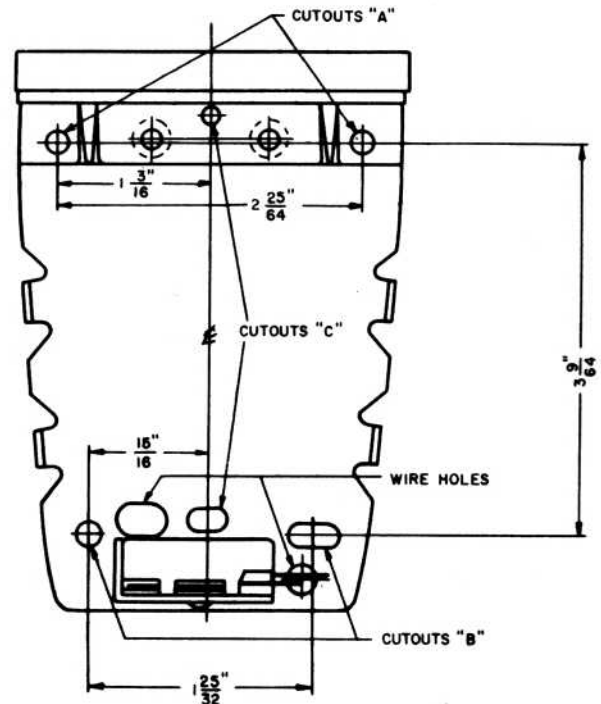
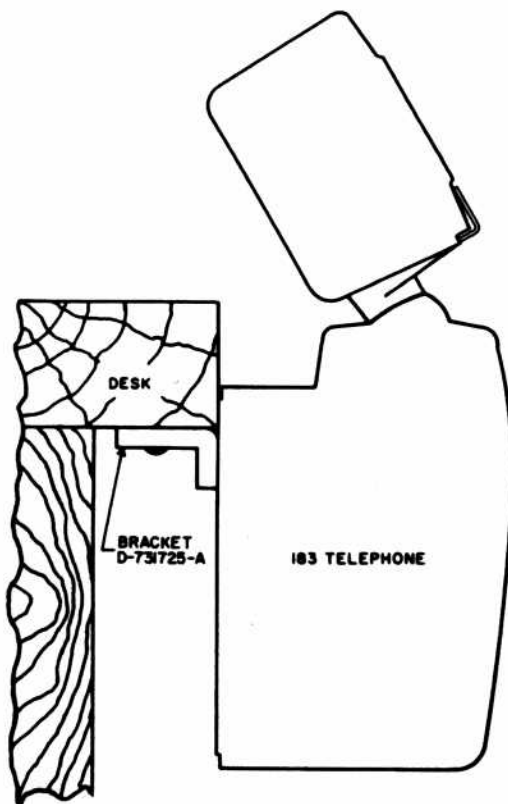

Figure 4. Baseplate Diagram.
Figure 3. Special Desk-Top Mounting.
2.04 The telephone can be attached to the edge of the top of a wood desk or to a special bracket (D-731725-A) installed under the desk-top overhang (Figure 3) by installing No. 8 wood screws through the cutouts in the baseplate (cutouts marked "A" in Figure 4).
2.05 To mount a Type 183 telephone on a metal desk, holes must be drilled to accommodate No. 8 machine screws. The holes should be drilled in the side of the desk in the pattern shown for holes marked "A" and "B" in Figure 4. A hole must also be drilled to align with the oblong-shaped wire hole. If the run of inside wire is to connect first to the telephone and from there extended to a ringer, then another wire hole must be drilled to align with the circular wire hole (Figure 4). The oblong-shaped wire hole in the baseplate should always be the hole used for incoming wire which must pass through the baseplate. The circular wire hole should be used only when extending the wire run. The Type 183 telephone should be attached to the desk with four No. 8 machine screws, lock washers, and nuts.
2.06 The location (including distance above the floor) of the Type 183 telephone on a wall must be determined, as far as practicable, according to the needs of the customer. The four cutout holes marked "A" and "B" in Figure 4 must be used to mount the telephone on a wall or other flat surface. To mount the telephone, install one No. 8 screw through either of the holes marked "A". Install a second No. 8 screw through the oblong hole marked "B". Position the telephone so that it is exactly vertical and install a No. 8 screw in each of the other holes marked "A" and "B". If masonry anchors are required, use the dimensions in Figure 4 to establish the location on the wall at which the anchors will align with holes "A" and "B", and install the anchors accordingly.
2.07 Holes marked "C" in Figure 4 are to be used when the Type 183 telephone is mounted over an electrical outlet box.